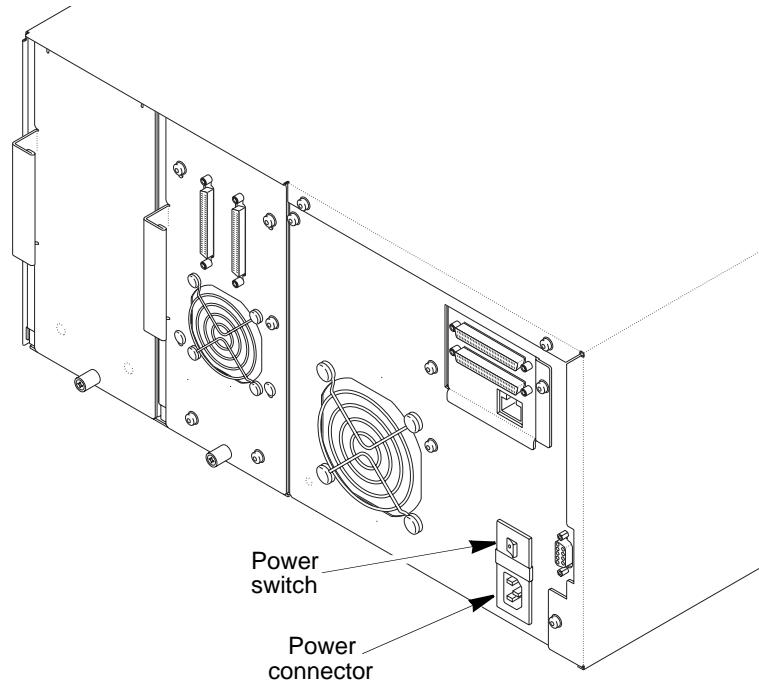

Figure 2-16 Location of library's power connector and power switch
1. Make sure that the power switch on the back of the library, shown in Figure 2-16, is off (the **0** is pressed).